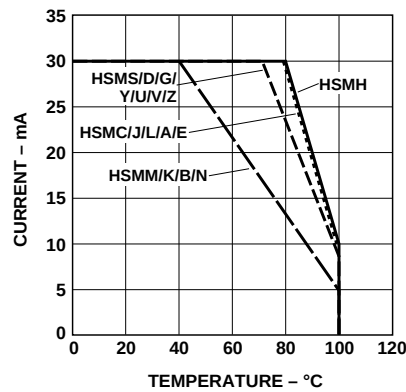

Figure 4. Maximum forward current vs. ambient temperature. Derated based on $T_{JMAX} = 110^{\circ}C$, $R_{\theta JA} = 500^{\circ}C/W$.
1. Derate linearly as shown in Figure 4.